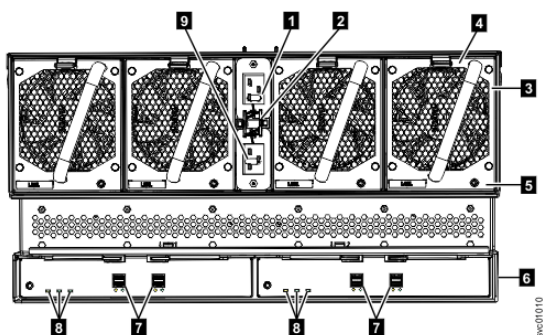
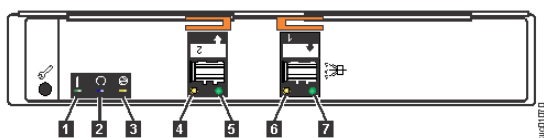

Figure 168. LEDs on the back of the expansion enclosure
Figure 169. LEDs on the back of the expansion canister
Table 66 on page 202 explains the function and status that is indicated by each of the LEDs. The power cords for each PSU are accessible from the rear of the expansion enclosure (1), as shown in Figure 168 on page 204.
Figure 168 on page 204 shows the rear view of a expansion enclosure. LEDs on the rear of the enclosure provide information about each fan module, each expansion canister, and SAS links.
The expansion enclosure has four fans. Each fan has one LED; for example, Figure 168 on page 204 shows the location of the LED (5) for fan number four. When a fan is operating normally, the LED is not lit. If a fault is detected, the amber LED is lit.
As Figure 168 on page 204 also shows, the expansion enclosure contains two expansion canisters. Each expansion canister contains its own set of LEDs, as shown in Figure 169 on page 204. The LEDs provide status information about the expansion canister itself and the SAS connections.